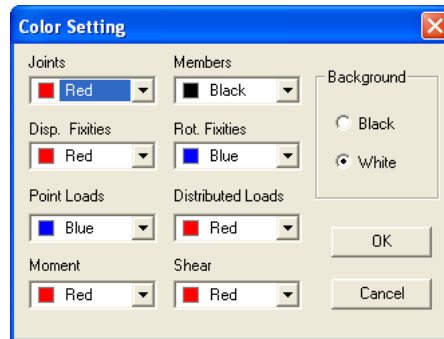

Figure 3-52 Color Setting dialog box
- From the **Options** menu, select **Color**. The dialog box of Figure 3-52 appears. You can change the color of the displayed joints, members, translational fixities, rotational fixities, point loads, distributed loads, result moment, and result shear. To change the color of an option, open the list box associated with it, and select a new color from the drop-down list.